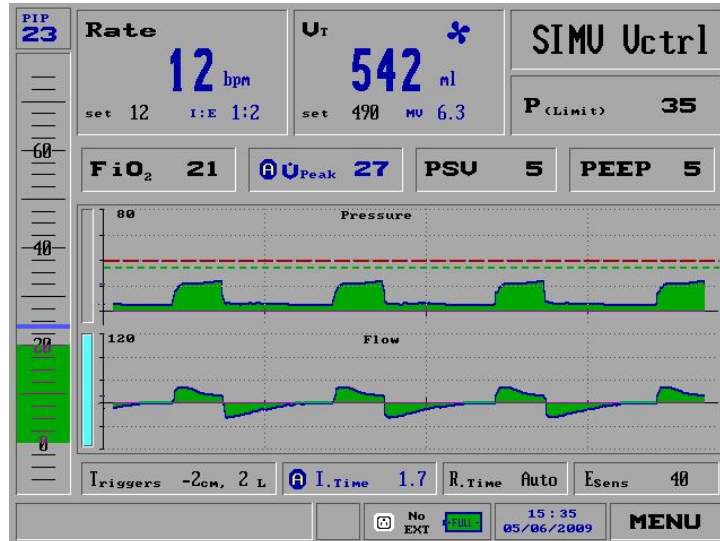

Figure 97: The Flow Waveform Selected
2. In the **Main Menu** select the **Show Graphs** option and press the control-knob. The Graphs are displayed, as shown Figure 97.
1. On the **Main** screen choose either the **Pressure waveform** or the **Flow waveform** by rotating the dial so that the Select bar of either is chosen (Figure 97).
1. From the **Main** screen, choose either the **Pressure** waveform or the **Flow** waveform by rotating the dial so that the Select bar of either is chosen (Figure 97).